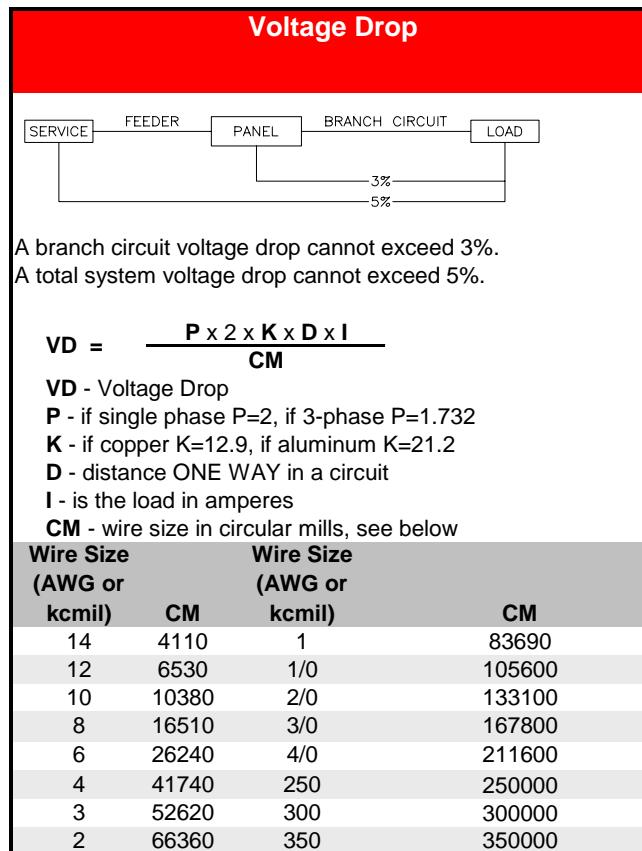

Figure 3 - Voltage Drop
- Make sure Voltage Drop does not exceed 3% (Shown in Figure 3)